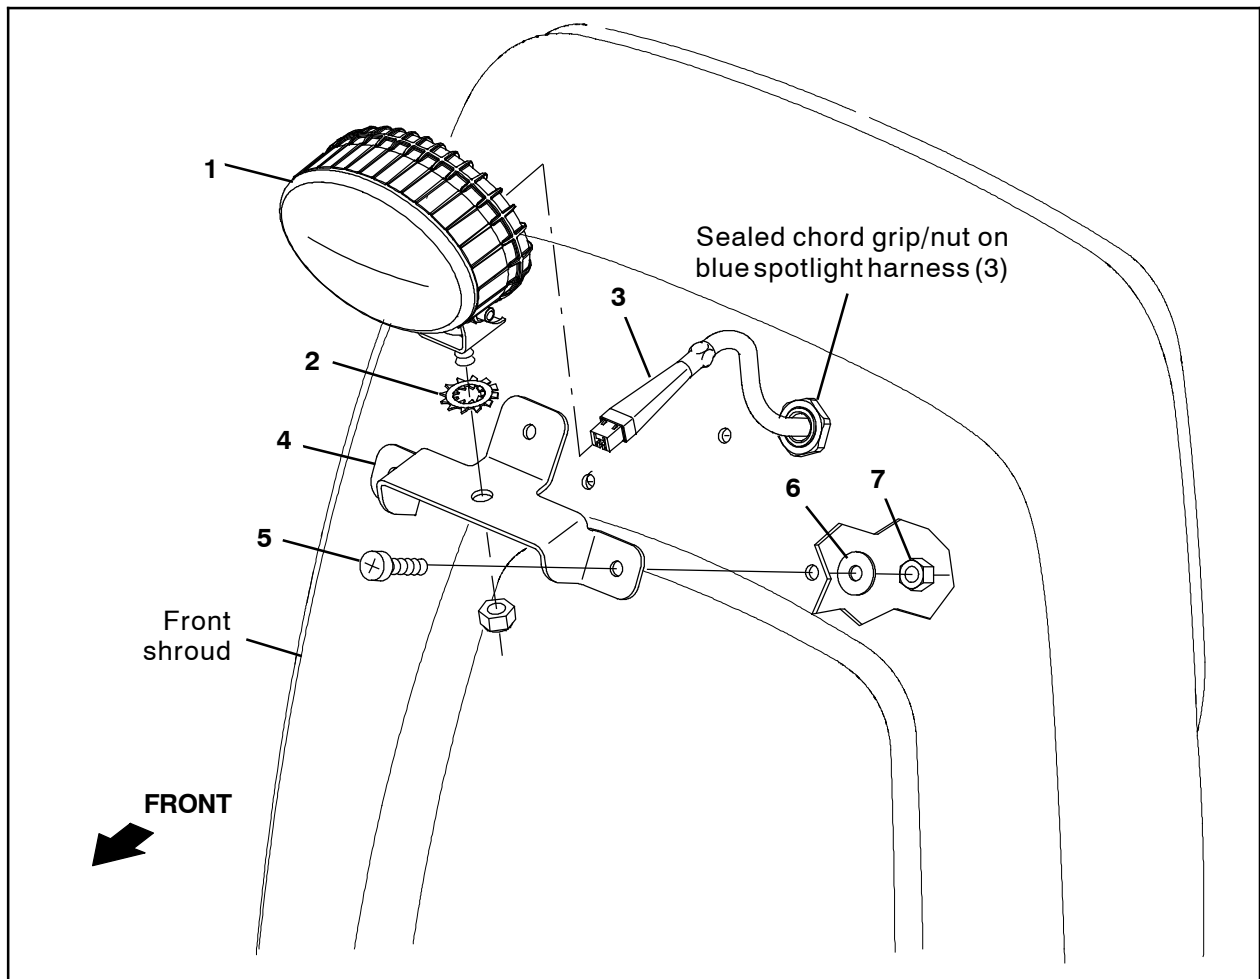

FIG. 28
5. Use three M8 pan screws (5), three M8 fender washers (6), and three M8 hex nuts (7) to install the front cover spotlight mounting bracket (4) onto the front shroud. (Fig. 28)
6. Remove the hex nut included with the blue LED spotlight (1) from the light. (Fig. 28)
7. Use the hex nut removed from the blue LED spotlight (1) in the previous step and a lock washer (2) to install the blue LED spotlight onto the front cover spotlight mounting bracket (4). (Fig. 28)
9. Route the end of the blue spotlight harness (3) to be connected to the blue LED spotlight (1) installed on the front shroud through the 0.886 in. (22.5 mm) hole previously drilled into the front shroud. (Fig. 28)
11. Use the sealed chord grip/nut on the blue spotlight harness (3) to secure the harness to the front shroud. (Fig. 28)